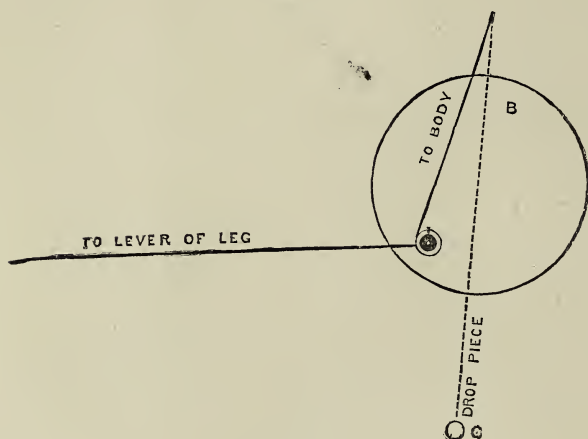

Fig. 11.
wire from the left-hand figure, and the other to the cross-piece of the wire from the right-hand one, and connected with them by the ends being bent into rings. From the cross wire to the figure to the right is also hung a drop wire with a small weight at the end, to help to pull it down. Fig. 11 will explain the fixing of this gear. A fly must be also fitted to the movement, to check the pace. This can be fixed to the pulley (B) or in front of the escapement wheel. The stopping motion is the same as in Fig. 8, but more slots may be cut in the disc, to regulate the length of time allowed for a penny.